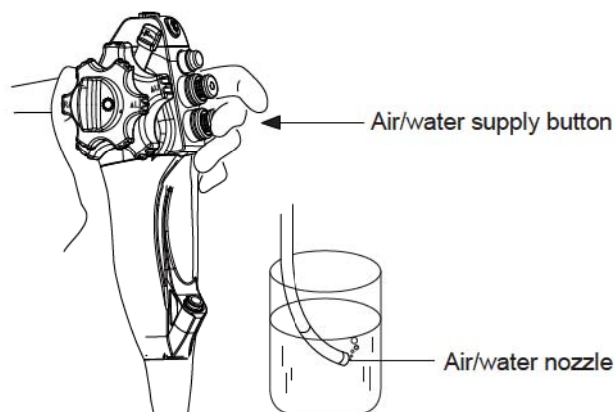

Figure 3-6 Air Feeding Inspection
3. Cover the air/water valve with a finger to feed air. Ensure that bubbles continuously come out from the air/water nozzle as shown in figure 3-6. Refer to the relevant endoscope user manual for details.